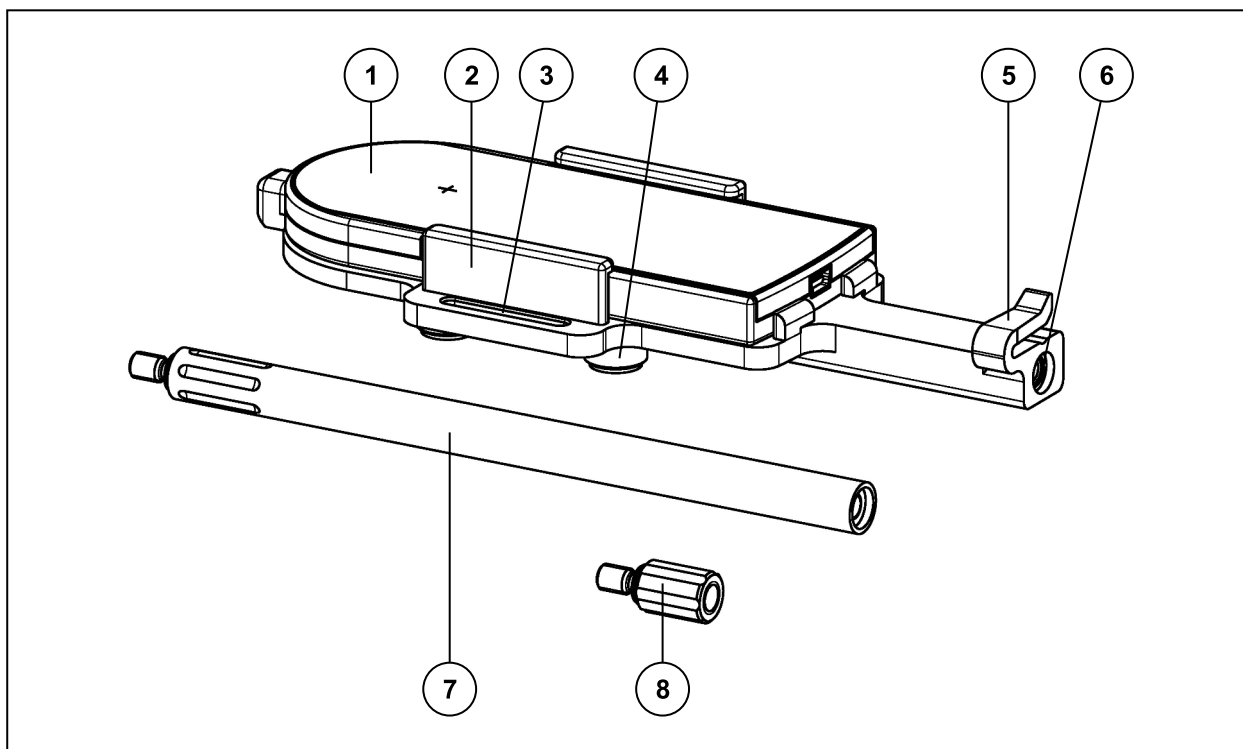

Figure 31: NOMEX multimeter holder T20016 with NOMEX multimeter
- Place the NOMEX multimeter (1) into the holder (2) as shown in Figure 31. The measurement area must face up. Check that the NOMEX multimeter properly locks into place in the holder.
- Slip the USB cable into the strain relief (5).